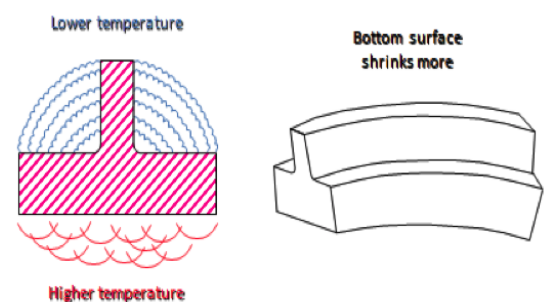

Figure 1
- **Mold Temperature** – The higher the mold temperature, the higher will be the shrinkage of the part. That’s because slower cooling allows greater stress relaxation and higher density of the resin in the part. If one face of the mold is hotter than the other, the part will shrink more on the hotter side due to this slower cooling. Unbalanced shrinkage will pull the part concave on the hotter face (Figure 1).